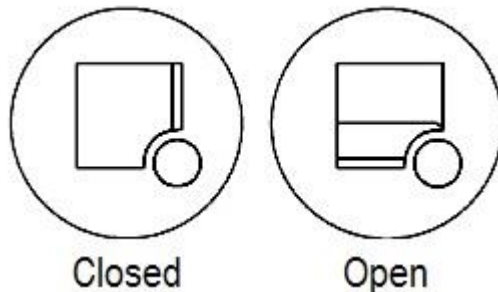

Fig. 6. Positions of the fan protective grid fixing devices
- 5.5. Before starting operation ensure that the protective grid 6 is in place and is fixed by the fixing device Fig. 6.